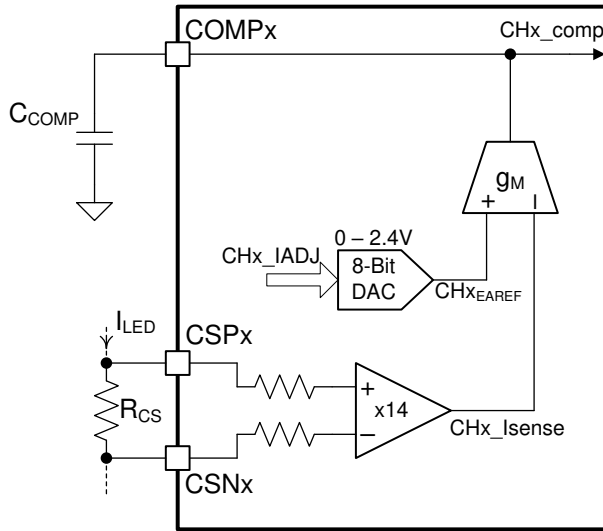
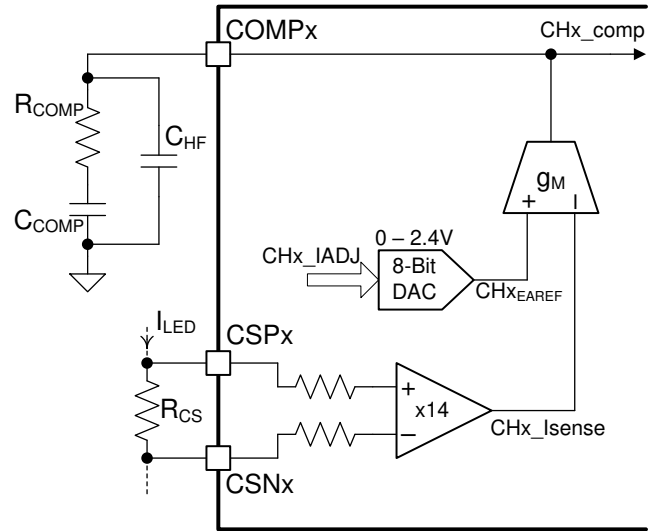

Figure 8-4. Integral Compensator
Figure 8-5. Proportional Integral Compensator
The feedback transfer function includes the current sense resistor and the loop compensation of the transconductance amplifier. A compensation network at the output of the error amplifier is used to configure loop gain and phase characteristics. A simple capacitor, C_{COMP} , from COMPx to GND (as shown in 图 8-4) provides integral compensation and creates a pole at the origin. Alternatively, a network of R_{COMP} , C_{COMP} , and C_{HF} , shown in 图 8-5, can be used to implement Proportional-Integral (PI) compensation to create a pole at the origin, a low-frequency zero, and a high-frequency pole.